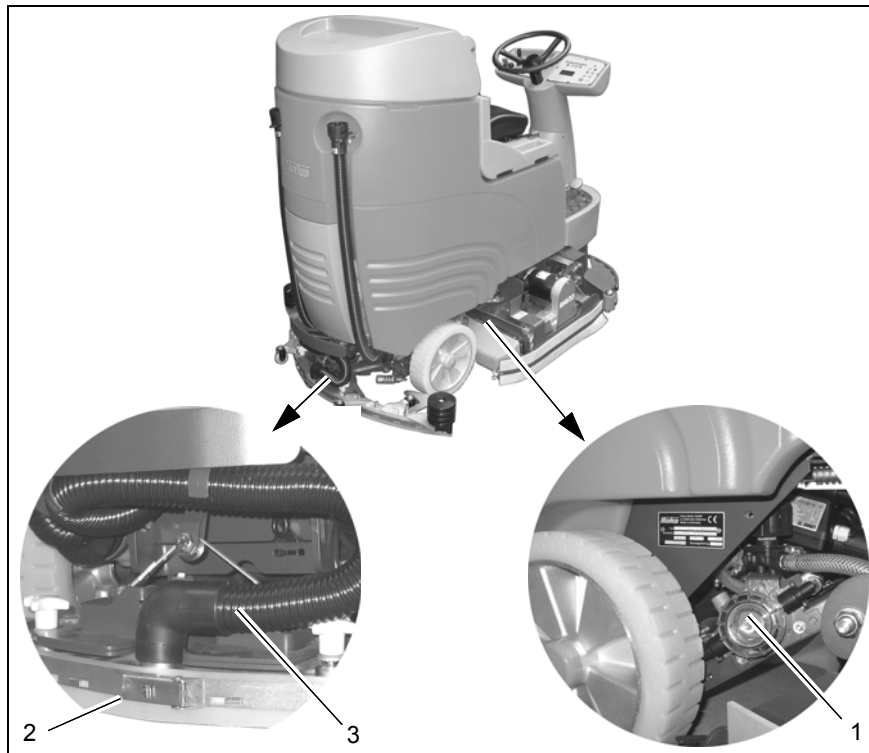

Fig. 16
4. Check the clean water filter (Fig. 16/1).
5. Check the sealing strips (Fig. 16/2) and suction hose (Fig. 16/3).